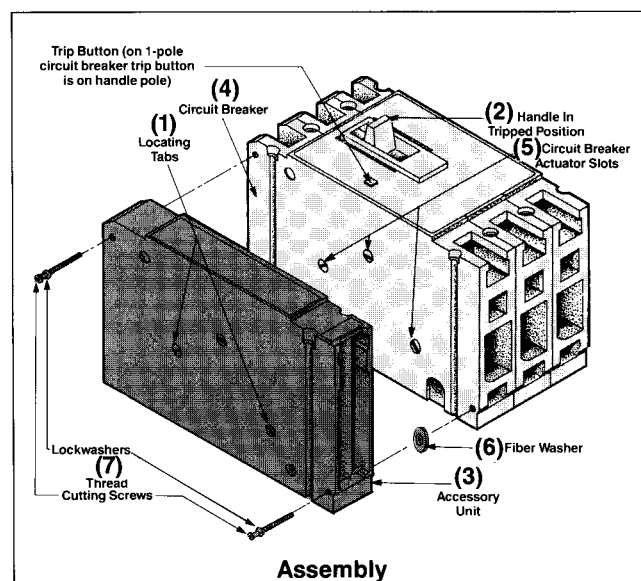

Figure 1
- For circuit breakers requiring knockouts, align accessory to circuit breaker as shown in Figure 1. Mark only the breaker knock-outs which correspond to the actuator blades protruding from the accessory package.
- Before assembling accessory unit to the breaker, make certain that all exposed accessory actuator slots are in line with the locating tabs (1) and the circuit breaker handle (2) is in the tripped position (Figure 1).
- Position accessory unit (3) against the side of the circuit breaker (4) carefully to determine that all accessory actuator blades are engaged into the actuator slots of the circuit breaker (5). NOTE: Fiber washer (6) must be placed between the circuit breaker and the accessory unit as shown in Figure 1.
- Secure accessory unit to the circuit breaker using two #6-20 x 1.38 in. thread cutting screws and split lockwashers (7).